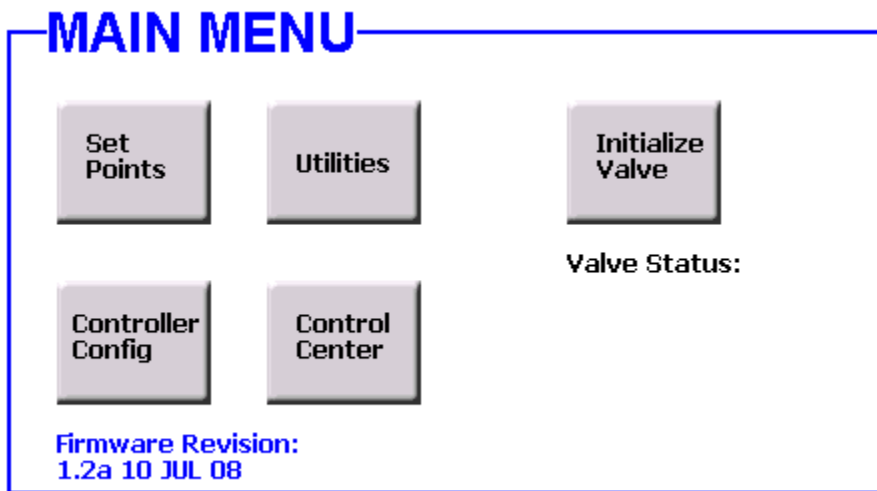

Figure 5.1: Main Menu
The 98 series touch-screen controller is a menu-driven, full-color, User Interface (UI). Operation is identical to the remote and integrated versions, with most commands accessed via the touch-screen. The main screen, **Figure 5.1**, is drawn when the screen is touched (anywhere) after power up.